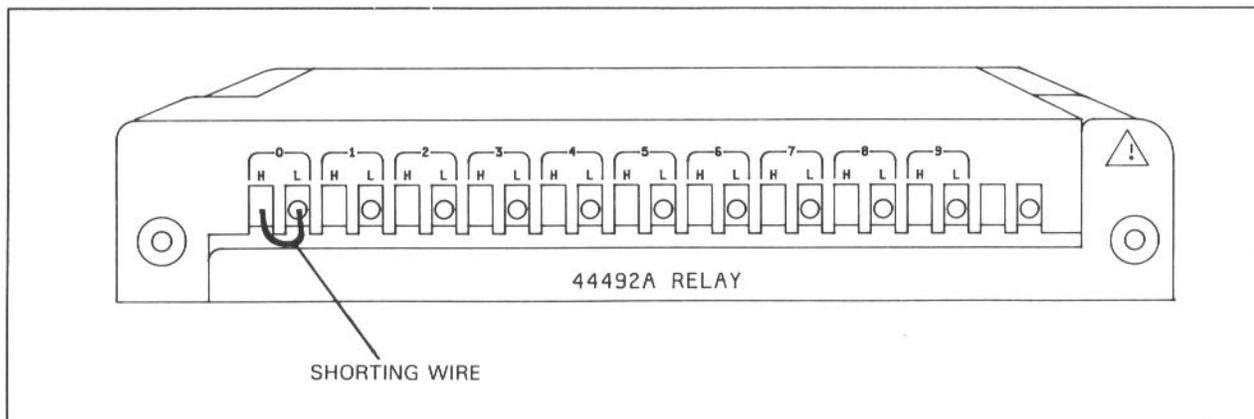

Figure 4-22. HP 44492A Terminal Block Assembly Connections
1. Connect a shorting wire to the channel 0 inputs of the Terminal Block assembly as shown in Figure 4-22.